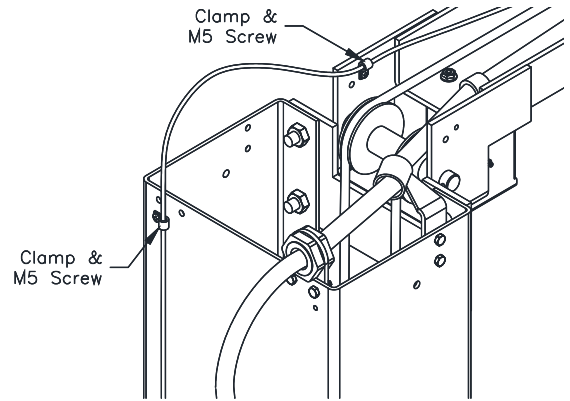

Fig. 10 – Lock Cable Routing
- 32) Secure Lock Release Cable at the top of each column extension as shown in **Fig. 10**. Lock Release Cable should be routed on the opposite side of the Overhead Beam as the Idler Hose to prevent interference.